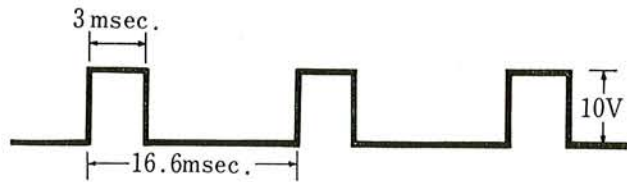

Fig. 39 Wave-form at TP201.
- B. The adjustment of the Rec. Phase can be made by connecting an oscilloscope to TP201 (collector of Q205) and by setting R220 (VR 50K Ω) to obtain the wave-form as shown in Fig. 39. The head switching line position must be set at 3 to 5H before the front porch of V.S.S. of the television signal while alternately recording and playing back. The final adjustment, however, must be conducted after the adjustment of the playback circuit is completed.